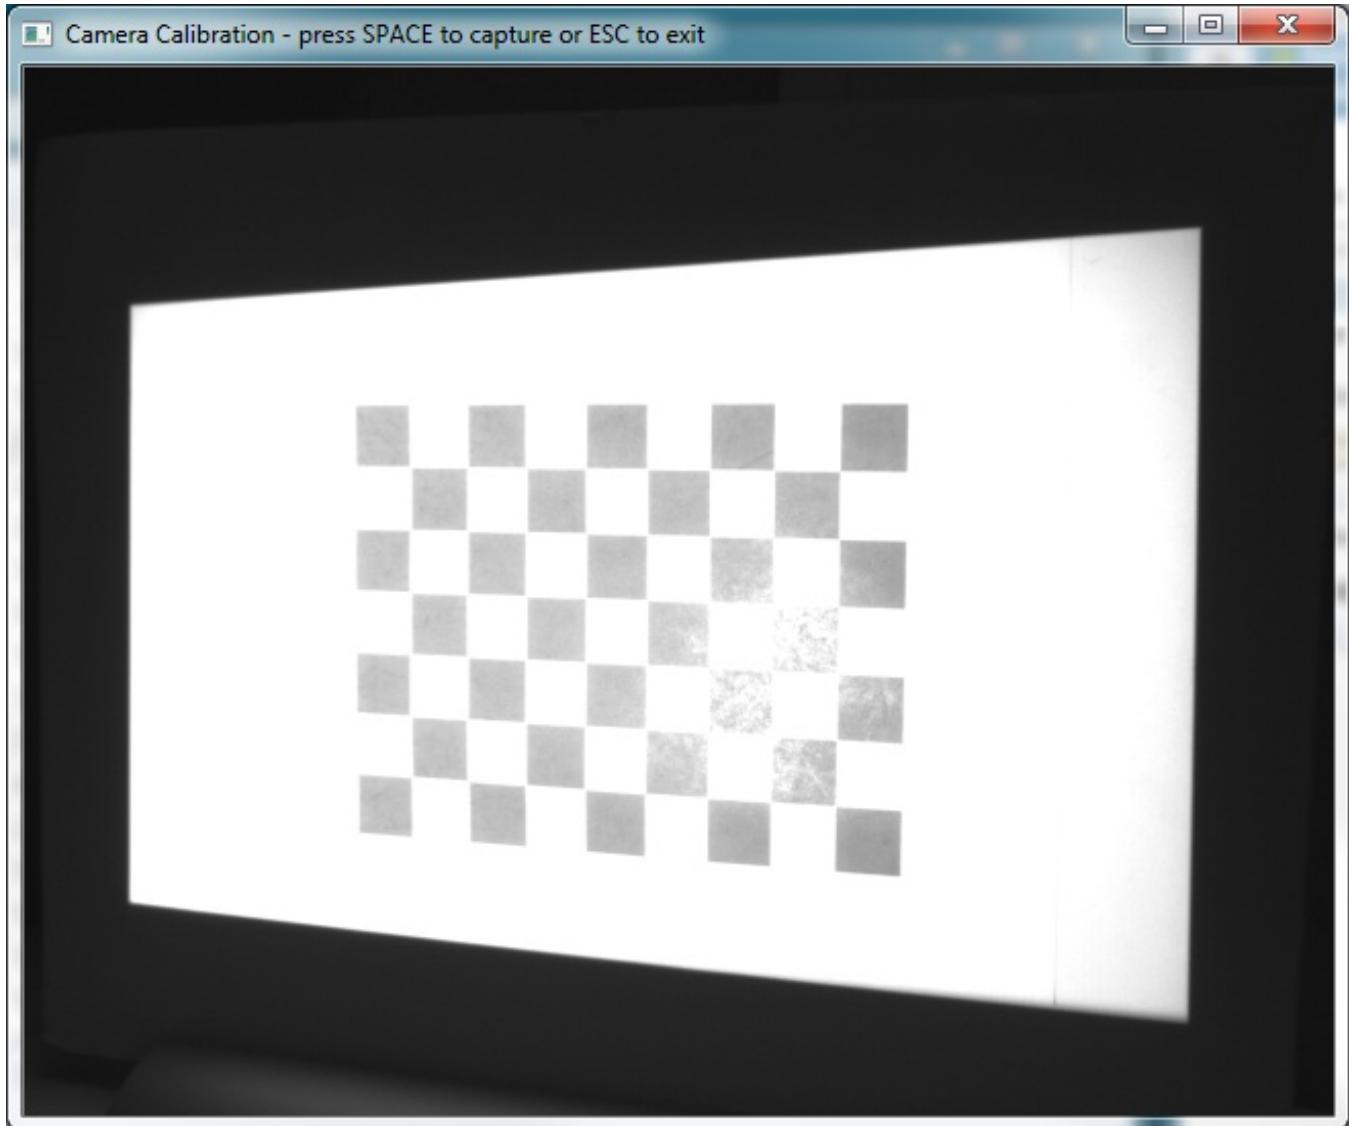

**Figure 3-10. Camera Calibration Board Live View**
6. A live camera view window will appear on the host PC. Position the camera calibration board entirely in the frame, as shown in Figure 3-10.